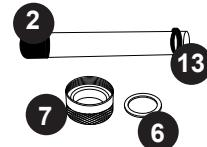

Figure 6
6. Remove the quartz seal compression nut (7) by turning it counterclockwise, Figure 3. Use a pair of channel-lock pliers if needed, Figure 5. You will notice that there is a stainless steel compression washer (6) that slides over the quartz tube. Save the washer (6) for later use, Figure 6. There is also a black seal ring (13), grasp the black seal ring; slowly and carefully remove the quartz tube.
7. Now you are ready to clean or replace the quartz tube (2). For the cleaning of the quartz tube (2), follow steps 8 and 9 then proceed to step 10. For replacing of the quartz tube (2), skip steps 8 and 9 and proceed to step 10.